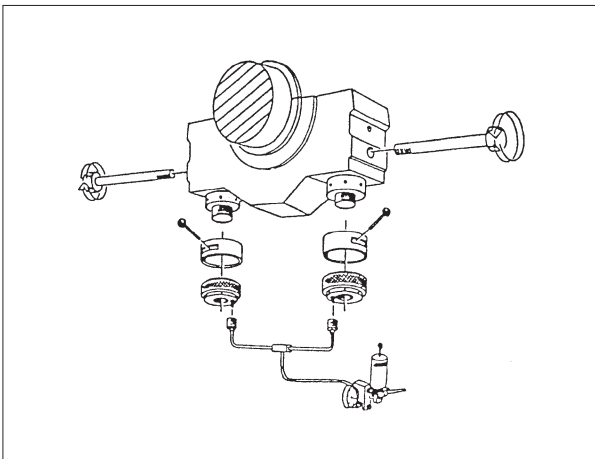

Fig 1. Mounting of Hydraulic Tools.
- 4) Mount the hydraulic tools, *see fig 1*, and loosen the guide bearing stud nuts. For operation of the hydraulic tools, *see working card 520-01.05*.